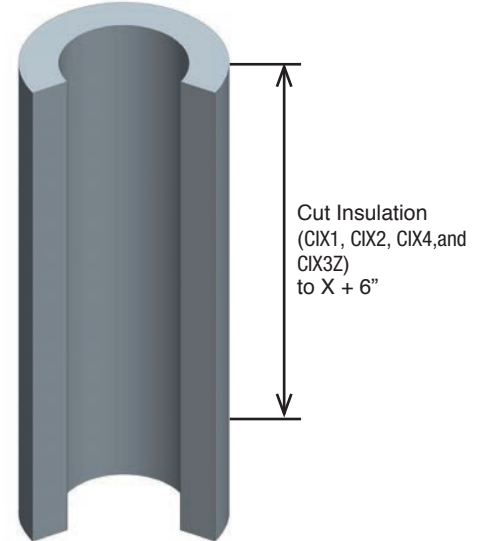

Figure 24c - Step 4 - Cut of the Insulation
4. Then cut the insulation band at dimension X + 6" (CIX1, CIX2, CIX4, CIX3Z). See **Figure 24c**.